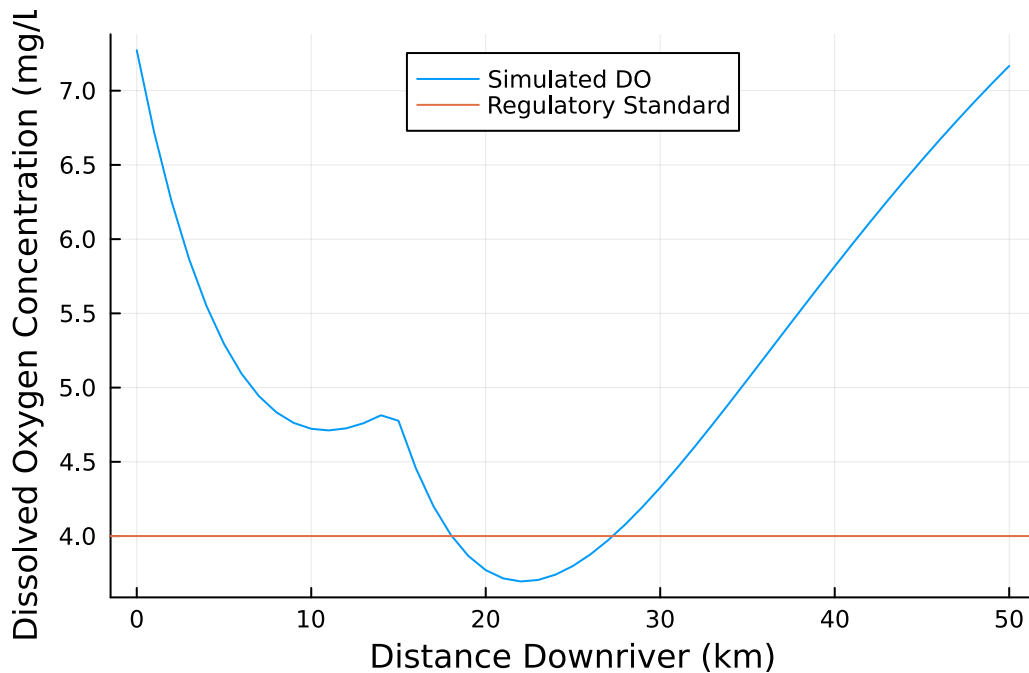

Figure 1: Simulated dissolved oxygen concentration for Problem 1 without treatment.
Now we can plot the dissolved oxygen concentration, shown in Figure 1.
- For example, one could argue that as waste stream 1 on its own does not result in a lack of compliance (which we can see from Figure 1, as the initial “sag” has started to recover prior to waste stream 2), waste stream 2 ought to be treated.